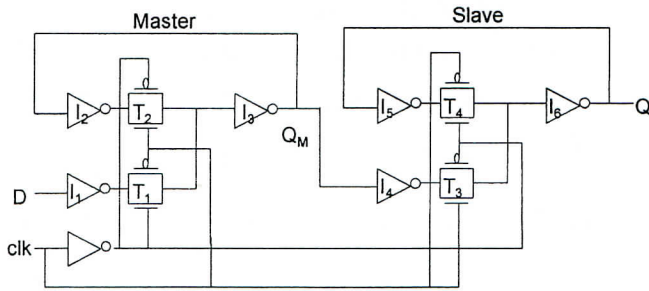

Fig. 1
- Consider the MUX type ET FF as shown in Fig. 1. Assume the propagation delays of I_x and T_x are 2ns and 4ns respectively. The delay between clk and $!clk$ is 0 (5%)
- Use Fig. 1. to state the condition and explain the following problems from clock skew of clk and $!clk$. (5%)